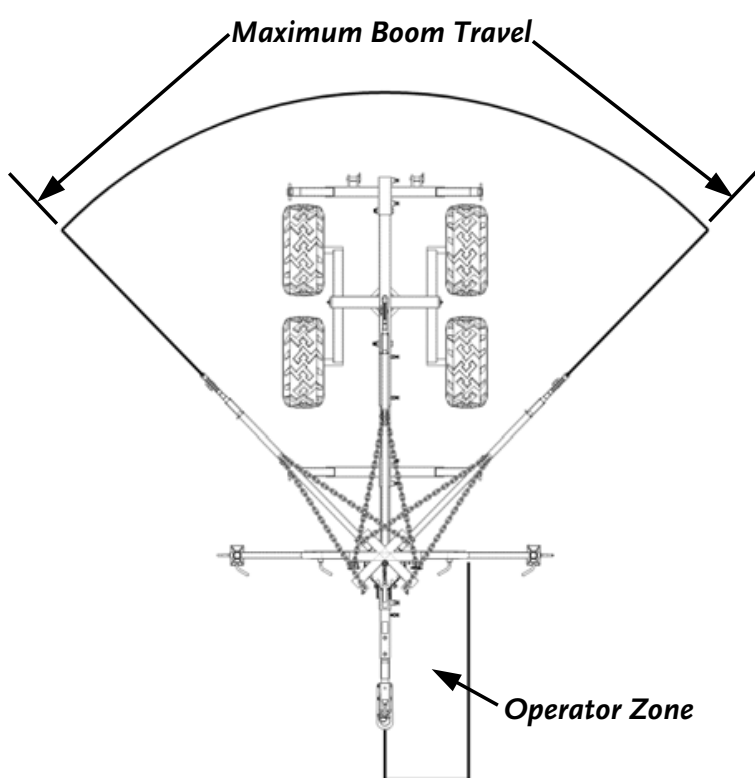

Figure 52
2. Use the Winch to unload the Logs by rotating the Boom to either side of the Dump Bed by using the Boom Swivel (**Figure 1** on page 6). To rotate the Boom, push the Pivot Lock Handle inwards until it pivots out to clear the Boom Pivot. Rotate the Crane in the desired direction and release the Pivot Lock Handle so it seats itself back into one of the Locking Detents on the Boom Pivot. Refer to **Figure 52** for the maximum Boom travel and Operator position.